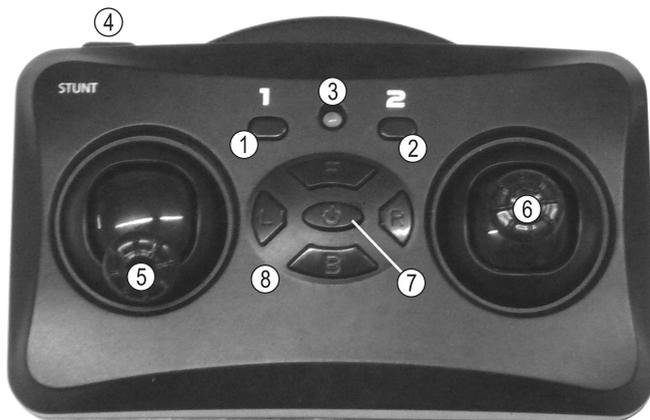
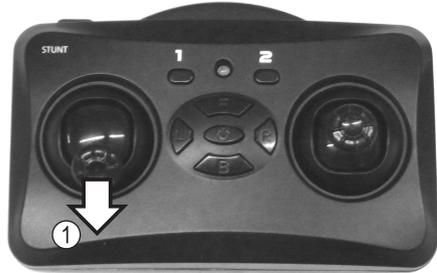
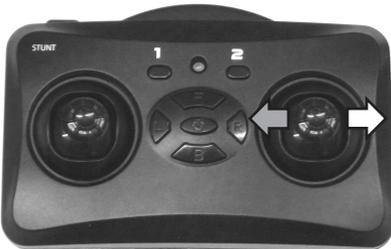
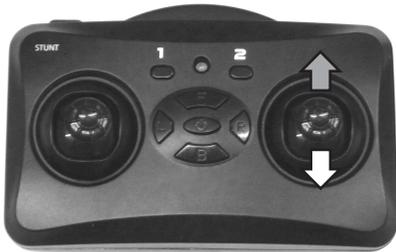

Figure 9
Figure 10
Figure 15
Figure 16
**Step 1:** Now move the joystick for the pitch and yaw function (see also Figure 9, no. 5) to the lowest position = motor off position (Figure 10).
The transmitter emits a short beep and the LED indicator light on the transmitter (see also Figure 9, no. 3) starts to flash.
- Now move the joystick for the pitch and yaw function (see Figure 9, no. 5) to the lowest position (motor off position). The propellers should stop.
- Now switch off the transmitter by pressing and holding down the on/off switch (see Figure 9, no. 7) for approx. 1 second until the transmitter emits two short beeps. The LED indicator light on the transmitter (see also Figure 9, no. 3) will go out.
With the pitch function you can control the flight altitude of the quadcopter (see Figure 13). Use the left joystick for steering (see also Figure 9, no. 5). The joystick can be moved forward and backward without springing back into the centre position, unlike with the other control functions.
If you move the left joystick (see Figure 9, no. 5) to the left, the electronics in the model increase the speed of the propellers that turn to the right (clockwise, as seen from above) and at the same time reduce the speed of the propellers turning to the left (anti-clockwise). Thus, the total lift remains the same, but now a torque acts on the model that turns the quadcopter on the vertical axis to the left (as seen from above).
The roll function allows you to move the quadcopter sideways to the right and to the left (see Figure 15). Use the right joystick for steering (see also Figure 9, no. 6).
If you steer to the right on the transmitter, the opposite propeller speed changes occur and the model flies sideways to the right (see arrows in Figure 15).
The bob function allows you to move the quadcopter forwards and backwards (see Figure 16). Use the right joystick for steering (see also Figure 9, no. 6).
If you steer backwards on the transmitter, the opposite propeller speed changes occur and the model flies backwards (see arrows in Figure 16).